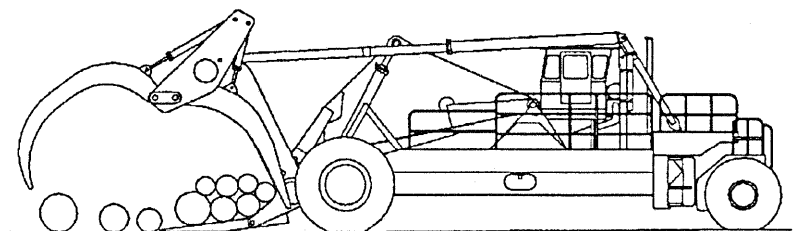

Fig 4-10
3. If several logs fall off at once and form a pile, stop the machine, tilt the carriage forward, and using the holddown arms, rake the top logs back into the carriage. See Fig. 4-10.
4. When retrieving spread logs and the last one is beyond the ends of the tines, extra reach can be gained by tilting the carriage forward. This places the holddown arms in a position to rake the logs onto the tines. The distance the top of the carriage extends forward is the extra reach gained at the tip of the holddown arms. See Fig. 4-10.